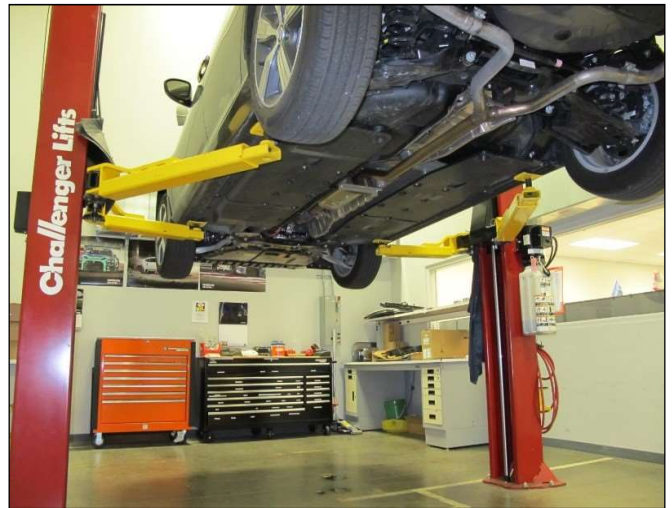

Figure 1
1. Place the vehicle on a lift. (Figure 1)